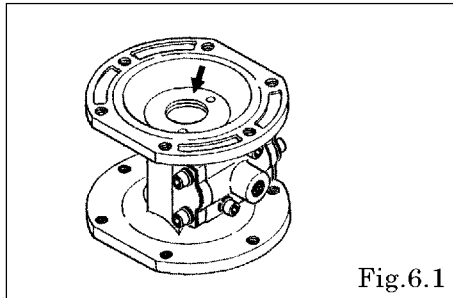

Fig.6.1
- Remove the snap ring using the snap ring pleyer, and remove the guide bush, spacer and center rod assembly. [Fig.6.1]